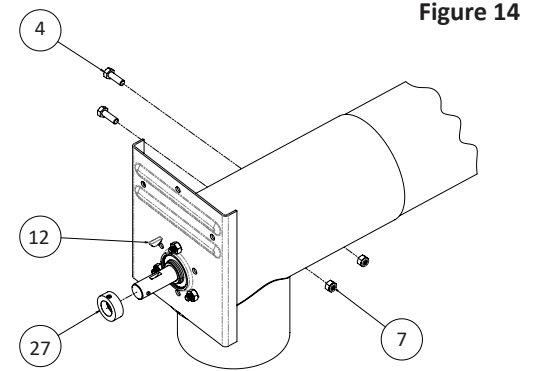

Figure 14
- Position assembled discharge head on the discharge end of the auger so that the auger tube is up to the edge of the spout and covers all openings in the lower seam, and the drive shaft protrudes through the bearing as much as possible. Secure the head in place with 5/16" x 1" hex bolts and nuts and tighten. Tighten the nuts holding the front bearing retainer plate in position. Pull the auger drive shaft through the bearing until the auger shaft stops against the bearing back face. Slip the bearing locking collar into the eccentric on the bearing. Turn the collar until tight and lock securely with the set screw in the collar. Insert the Woodruff key in the slot in the drive shaft (Figure 14).